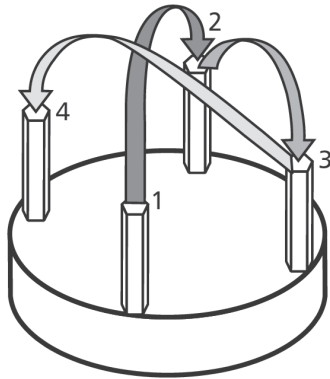

Figure 30: Manifold Torque Sequence
- 11) Use the specified torque wrench to the standoffs of 10in-lb (115 N-cm) in an alternating sequence (Figure 30).